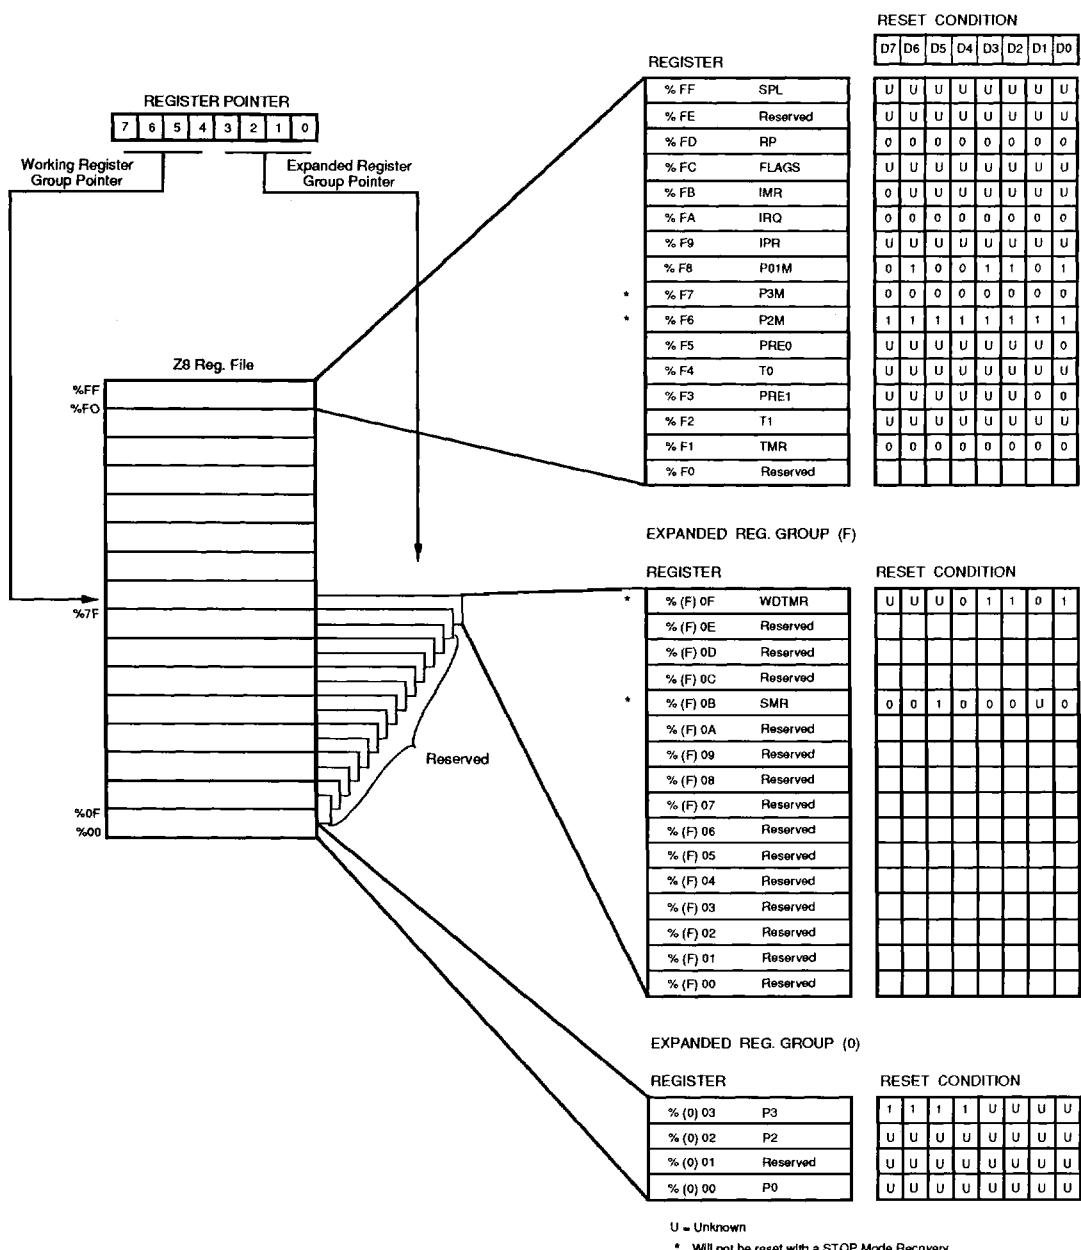
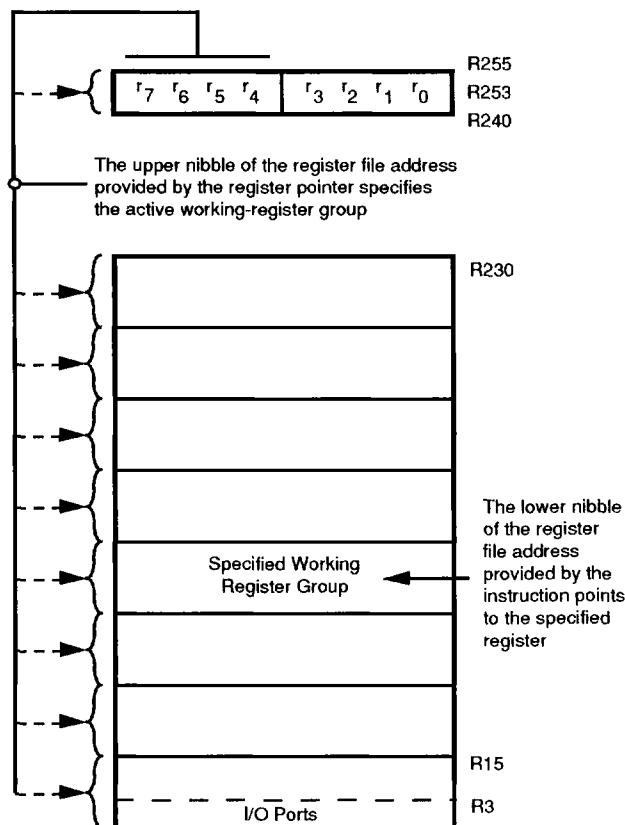

Figure 7. Expanded Register File Architecture
Figure 9. Register Pointer
**Expanded Register File.** The register file has been expanded to allow for additional system control registers, mapping of additional peripheral devices and input/output ports into the register address area. The Z8 register address space R0 through R15 is implemented as 16 groups of 16 registers per group (Figure 7). These register groups are known as the ERF (Expanded Register File).
**Register File.** The register file consists of three I/O port registers, 236 general purpose registers and 15 control and status registers (R0-R3, R4-239 and R240-R255, respectively), and two system configuration registers in the expanded register group (See Figure 7). The instructions can access registers directly or indirectly via an 8-bit address field. This allows a short 4-bit register address using the Register Pointer (Figure 9). In the 4-bit mode, the register file is divided into 16 working register groups, each occupying 16 continuous locations. The Register Pointer addresses the starting location of the active working register group.